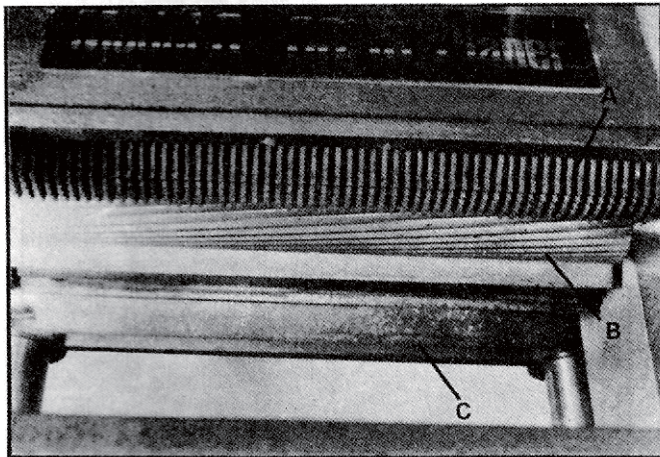
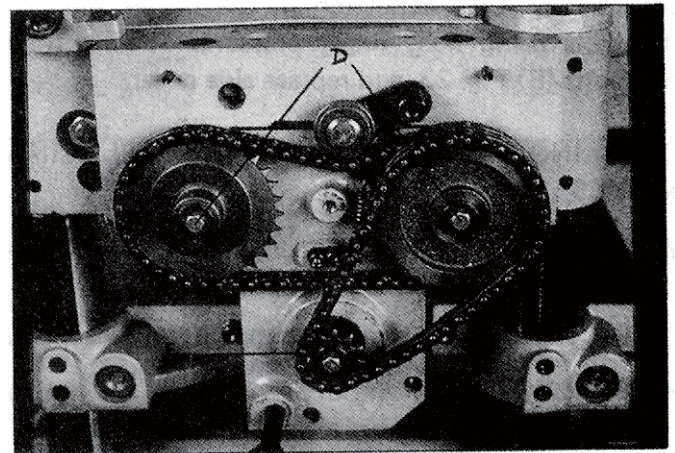

Fig. 19
Fig. 20
Anti-kickback fingers (A) Fig. 19, are provided on your planer to prevent kickback. These fingers operate by gravity and it is necessary to inspect them occasionally to make sure they are free of gum and pitch so that they move independently and operate correctly.
Your machine is equipped with a spiral, serrated infeed roll (B) and a outfeed roll (C) Fig. 19. When the feed rolls are engaged, they turn and feed the stock. The feed rolls show automatically when the machine is under heavy load for best planing under all conditions. The feed rolls are driven by a chain and sprocket drive (D) Fig. 20, which takes power directly from the cutterhead through the oil bath gear box (E).